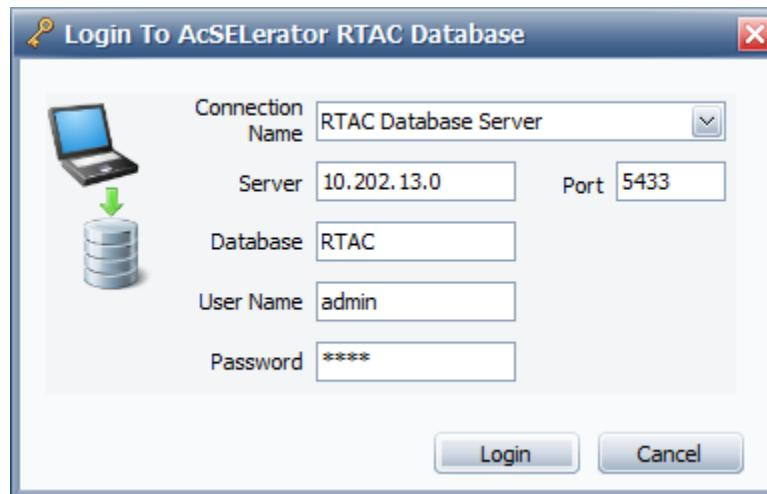

Figure 1.18 Logging In to Database Server
Step 14. Change the Server field to be the IP address or hostname of the server computer but leave the Port field = 5433 and the Database field = RTAC. See *Figure 1.18*.